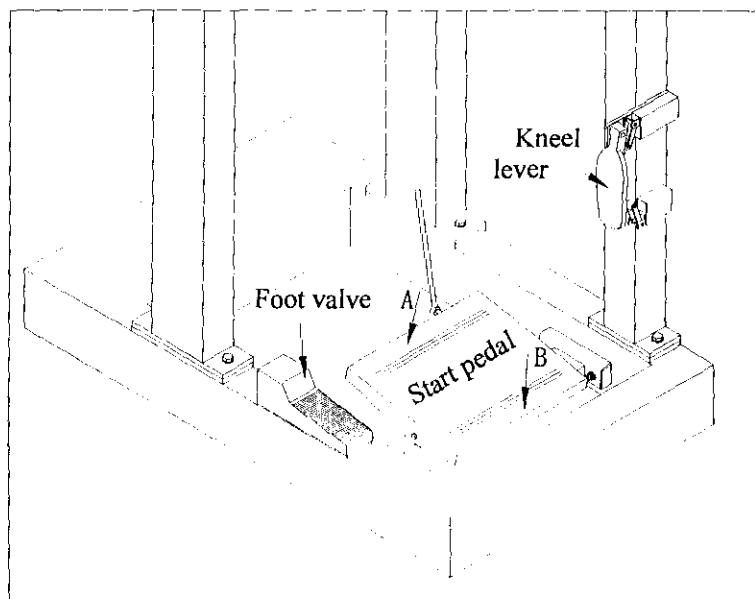

Fig.1
3.2.1 Start pedal (Fig.1)
First of all, switch on the main switch of the machine to check if the rotation of the motor conformable to the red allow on the belt cover. If the direction is opposite, switch in the other way round. Then operate the start pedal in three different movements. (Fig.1)